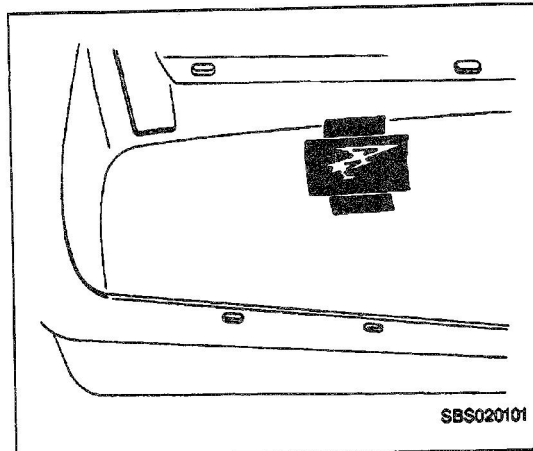

Figure 13—Tape Support for Repair Material
3. Apply 3M Aluminum Autobody Repair Tape P/N 06935, P/N 06936, or equivalent, to the back side of the puncture to support the repair material (Figure 13).